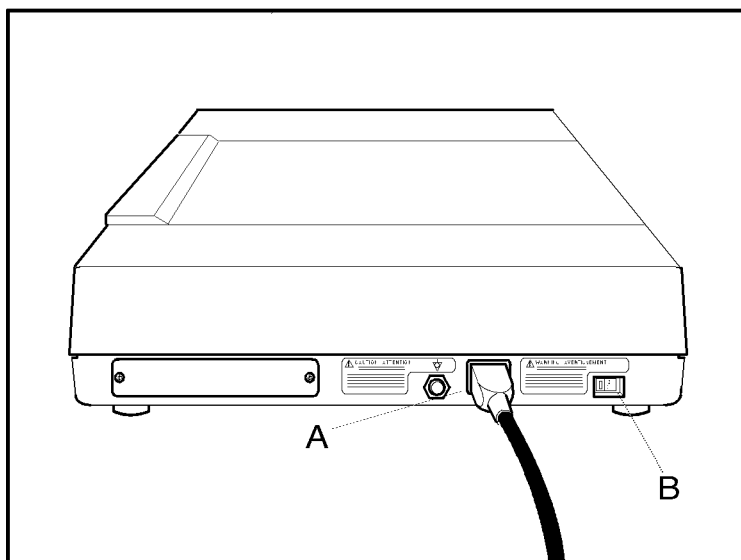

Figure A-4: Connecting the Power Cord.
2. Connect the power cord to the cardiograph as shown in Figure A-4.